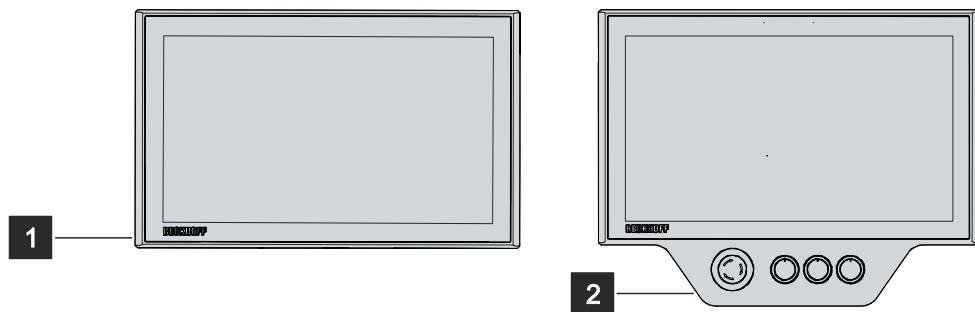

Fig. 1: CP32xx-1600_with and without push button extension
For explanations of the push button extension and the functions, refer to the manual C9900-G05x. Figure 1 shows an example of a Panel PC without (1) and with (2) push button extension.